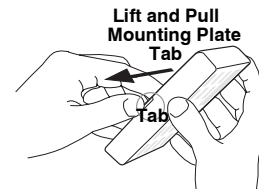

Figure 1. Separating Touchpad From Mounting Plate
1. Separate the mounting plate from the touchpad by pressing the tab at the bottom and sliding the mounting plate down (see Figure 1).